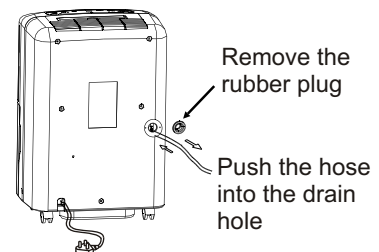

Fig.8
- Remove the rubber plug from the back of the unit and store it in a safe location(see Fig.8).